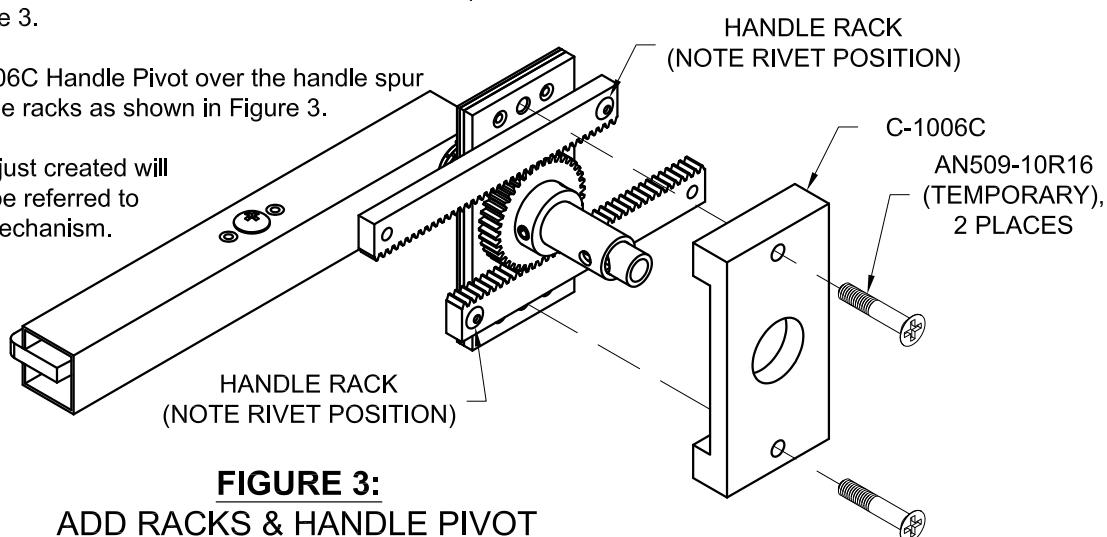

FIGURE 3:
Step 3: Place two Handle Racks on the C-1014 Handle Spur Gear as shown in Figure 3.
Slide the C-1006C Handle Pivot over the handle spur gear and handle racks as shown in Figure 3.
Remove the latch mechanism and replace the rack trimmings with the Handle Racks (created per Page 45-11, Step 1) as shown in Figure 3. Because of the size of the latch pocket in the door and the length of the handle racks, the latch mechanism must be assembled "in-position" in the latch pocket.